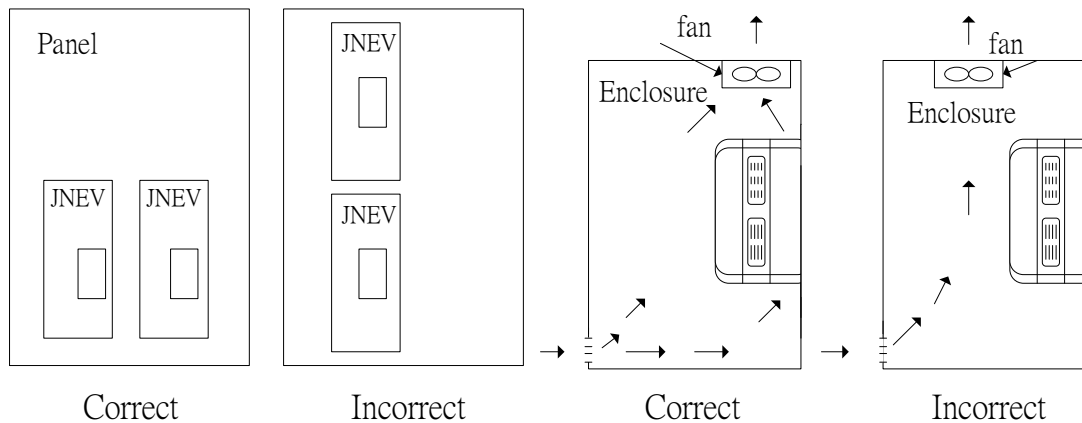

Figure 3-1 Panel and enclosure arrangement for drives
- If several inverters are placed in the same control panel, provide heat removal means to maintain the temperature below 50 degree C. See figure 3-1 for proper drive arrangement.